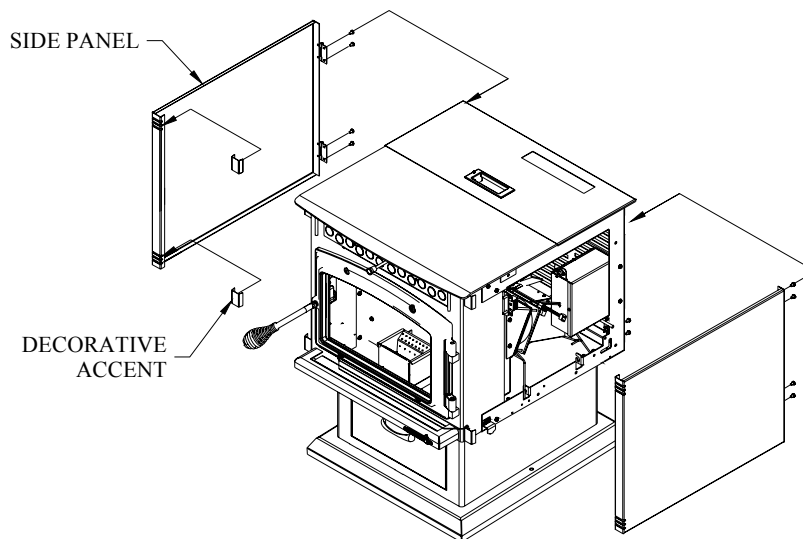

Figure 13
- 7- Mount the side panels into place. Using 2 screws per hinge and insert the accent clips behind the slots on the side panels front edges.(Figure 13)